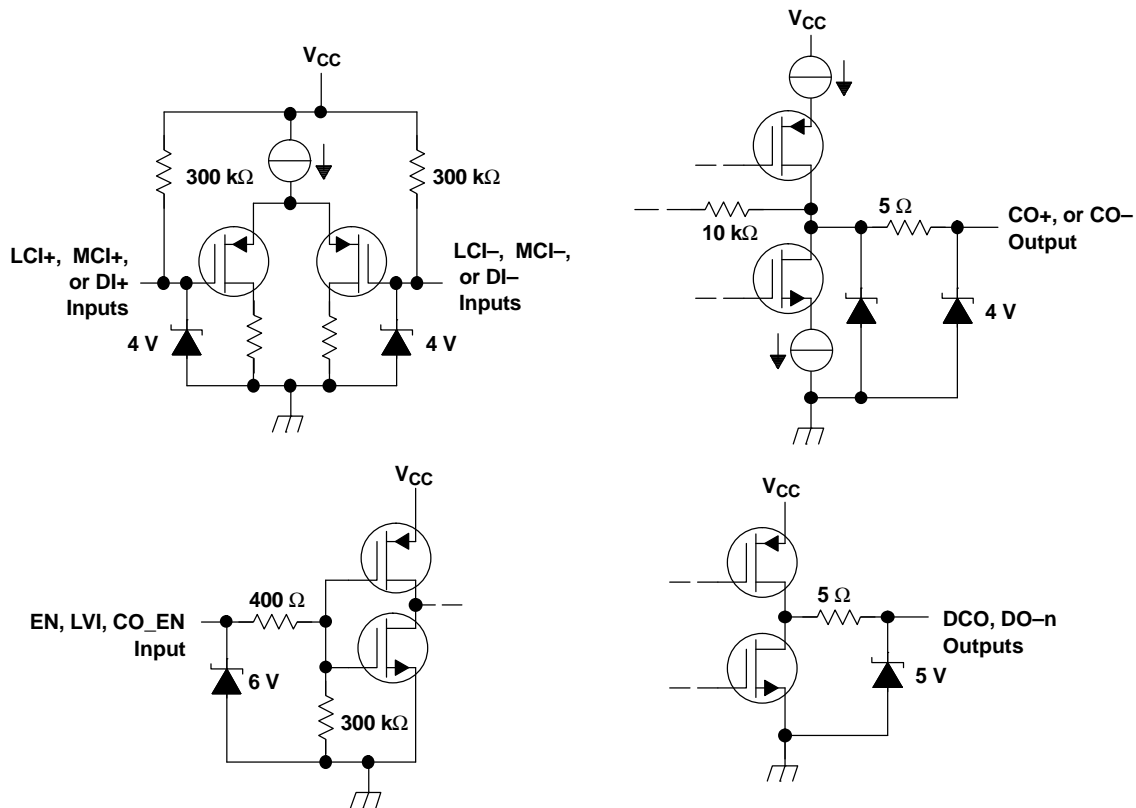

**Figure 1. Operating Waveform Examples**
Data is serially shifted into the SN65LVDS152 shift register on the falling edges of the M-clock input (MCI). The data is latched out in parallel from the SN65LVDS152 shift register on the second rising edge after the first falling edge of the M-clock following a rising edge of the link clock input (LCI). The SN65LVDS152 includes LVDS differential line receivers for both the serialized link data stream (DI) and link clock (LCI). High-speed signals from the SN65LVDS150 MuxIt programmable frequency multiplier (MCI), plus the input and output for cascaded data (DI, CO) are carried over differential connections to minimize skew and jitter. Examples of operating waveforms for values of  $M = 4$  and  $M = 10$  are provided in Figure 1.